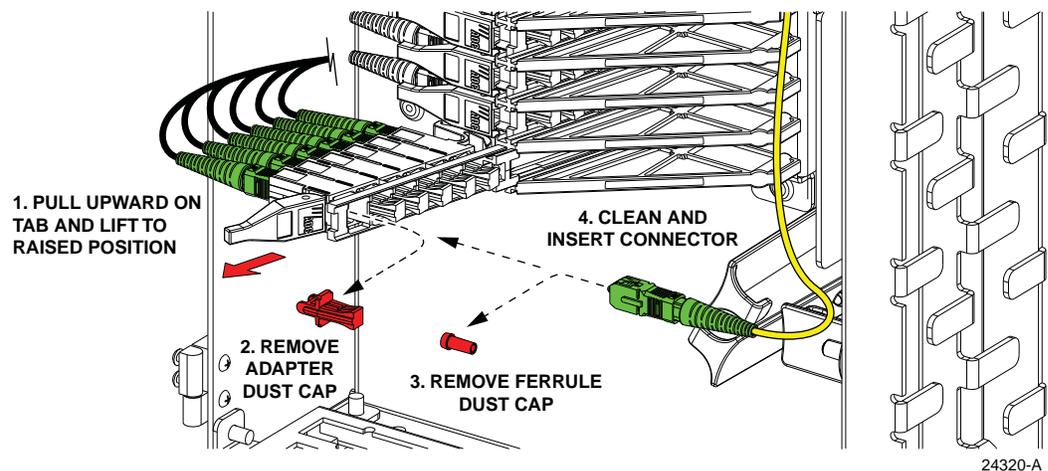

Figure 61. Adapter Pack Raised to Access Position
3. Pull upward on the small tab on top of both sliding adapter packs and lift each adapter pack to the raised position as shown in Figure 61.
8. Insert the patch cord connector into the appropriate bulkhead adapter on the first sliding adapter pack (see Figure 61).
12. Insert the patch cord connector into the appropriate bulkhead adapter on the second sliding adapter pack (see Figure 61).